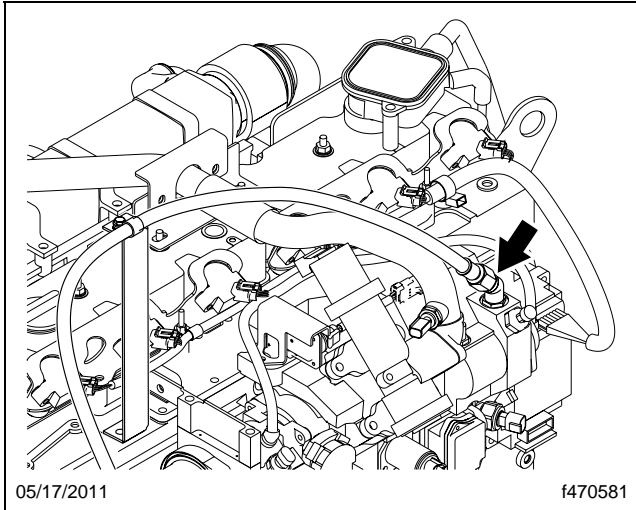

Fig. 11, Fitting Orientation at Engine
9. Orient the fitting at the engine as shown in **Fig. 11**.